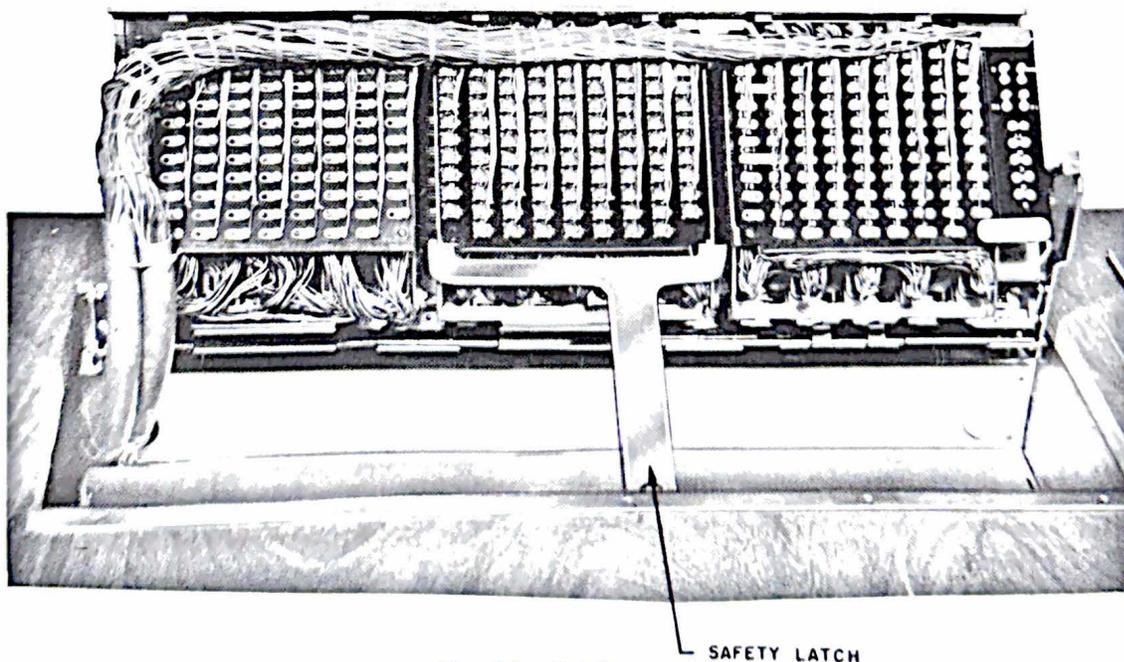

Fig. 13 — Cabling
5.01 The hinged framework can accidentally fall to the closed position in the course of the following work operations. See Fig. 13 and 15 for the placing of the P-14E116 support bracket.
5.03 Two knockouts are provided for cable entrance to the mounting. The left side knockout should be used on the 423A, 424A, and 425A mountings (Fig. 13, 14, and 15). Both knockouts will be used on the 426A mounting.